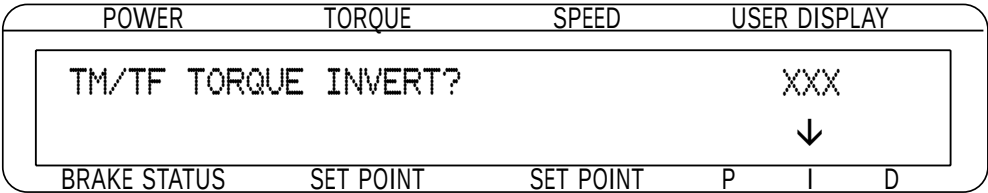

Figure 6–7 Torque Invert Flag Screen
- 1. See Section 3.2.1 - Dynamometer Configuration. When the TM/TF torque sensor is chosen, after the max torque screen, the TM/TF torque reading invert flag screen will be displayed as in Figure 6–7 Torque Invert Flag Screen.